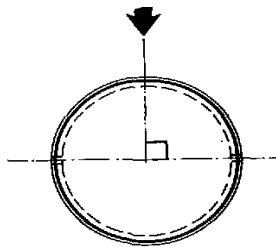
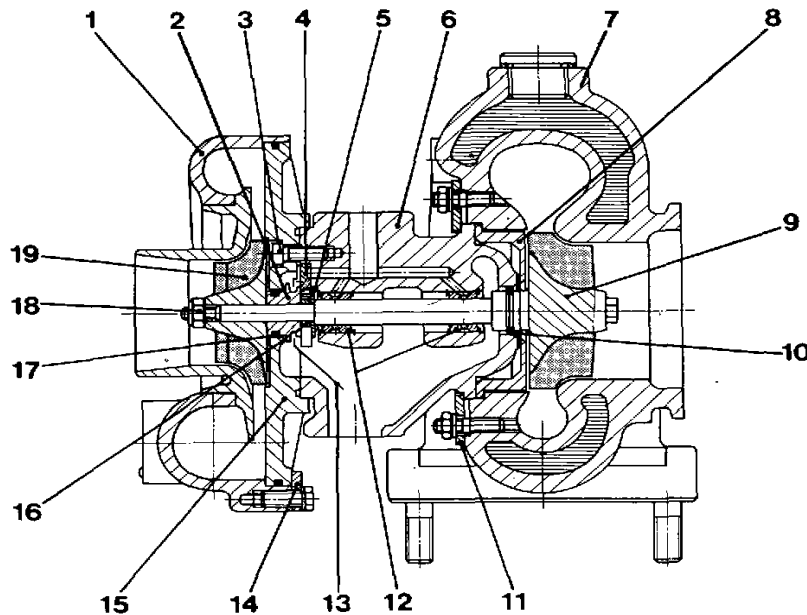

Fig. 216. Location of piston ring gaps, KKK-turbo
Fig. 217. Turbocharger KKK
1. Make line-up marks between the turbine housing (7, fig. 217), bearing housing (6) and the compressor housing (1).
5. Remove the end cover (15) and press out the piston ring holder (2). Remove the piston rings.
6. Remove the oil deflector plate (13), the thrust bearing (4), the bushing (16) and the thrust washer (5). Lift off the bearing housing (6) and the heat shield (8) from the shaft.
2. Fit the heat shield (8, fig. 217) to the bearing housing.
4. Fit the piston rings (10) in the groove in the turbine shaft and carefully place the bearing housing over the shaft.
5. Locate the piston rings so that their gaps are at 180° in relation to each other. Press the rings together and fit them into the bearing housing with the piston ring gaps located at 90° in relation to the oil inlet (fig. 216). Check that the heat shield rotates freely.
7. Fit the thrust washer (5, fig. 217), the thrust bearing (4), the bushing (16) and the oil deflector plate (13).
8. Fit the piston rings on the piston ring holder (2). Locate the piston ring gaps in the same way as for the turbine rotor side and fit the holder into the end cover (15).
9. Apply a thin coat of sealant to the end cover sealing surfaces and attach it to the bearing housing with new self-locking screws (3). (If the old screws are used these should be secured with Loctite locking fluid.)